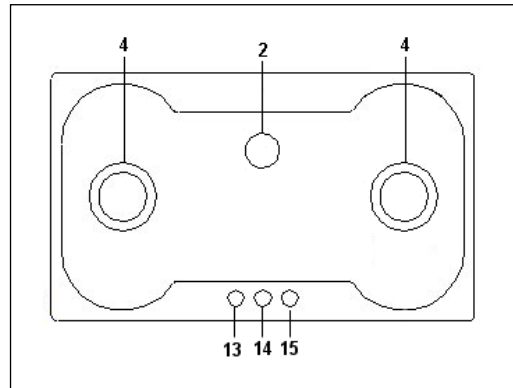

Fig.11C
- GAS HOB TYPE **P9C0**, see Fig. 11C - Electrical Diagram E